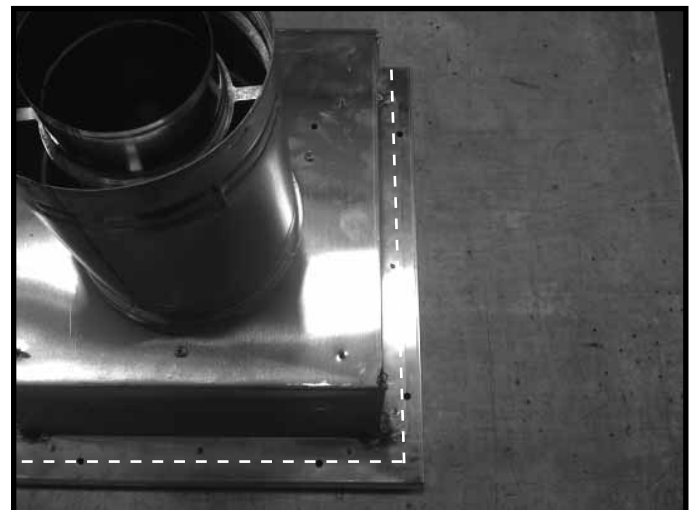
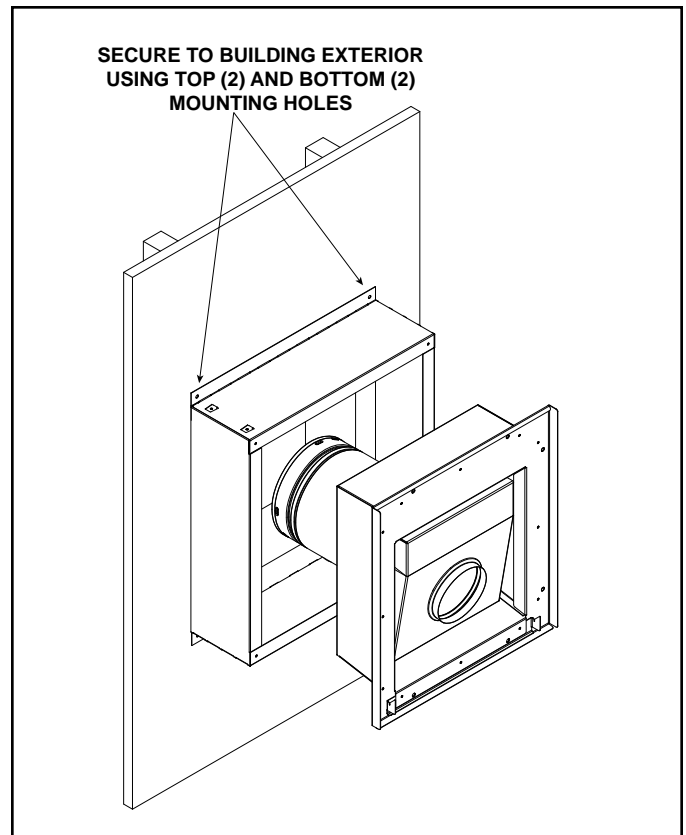
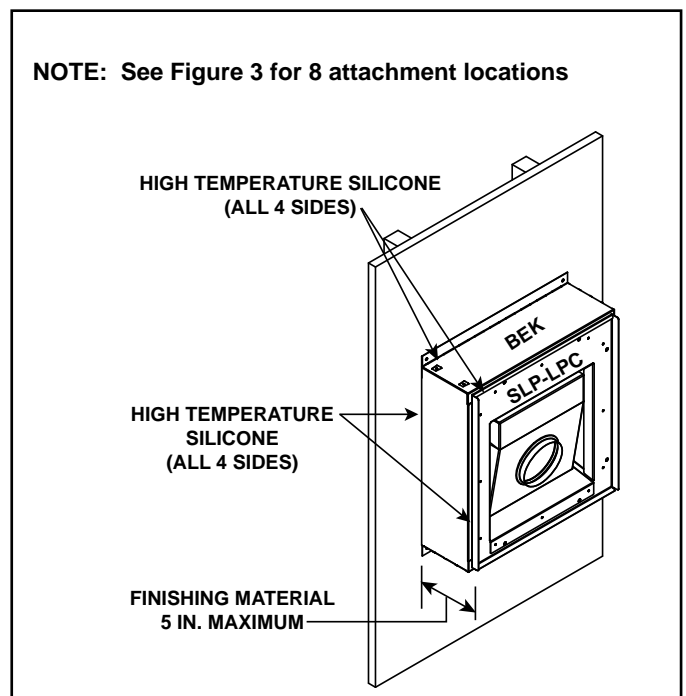

Figure 2. High Temperature Silicone
Figure 8. SLP-LPC Attached to LPC-BEK
Figure 9. High Temperature Silicone Weatherproofing
4. Apply a bead of high temperature silicone around the entire metal flange, as shown in Figure 2 with the dotted line on the seam that runs through mounting holes.
14. Apply a bead of high temperature silicone around the entire metal flange of the LPC. See Figure 2. Align with LPC-BEK as shown in Figure 8. Ensure cap is level and square, then secure LPC to BEK-LPC as shown in Figure 9.
15. After the LPC has been secured to the LPC-BEK, high temperature silicone should be applied around outer edge of LPC where it meets the building exterior. High temperature silicone should also be applied where LPC-BEK and SLP-LPC meet, as shown in Figure 9.